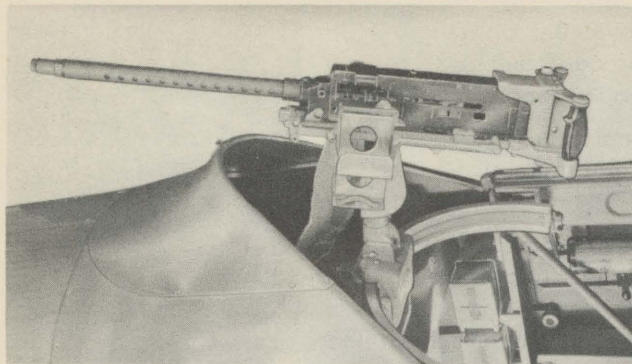

FIG. 11—FLEXIBLE FUSELAGE GUN
c. FLEXIBLE GUN (See figure 11.)—Provisions are made in the rear cockpit frame for the installation of a model M-2, .30-caliber, Browning flexible machine gun. The gun is mounted on a gun mount that trains on a track attached to the aft end of the rear cockpit. A truck-locking handle is provided to secure the gun truck to the track. The locking handle must be raised before the gun truck can be moved along the track. The gun is equipped with a gun yoke locking device to secure it in the stowed position. Ammunition boxes